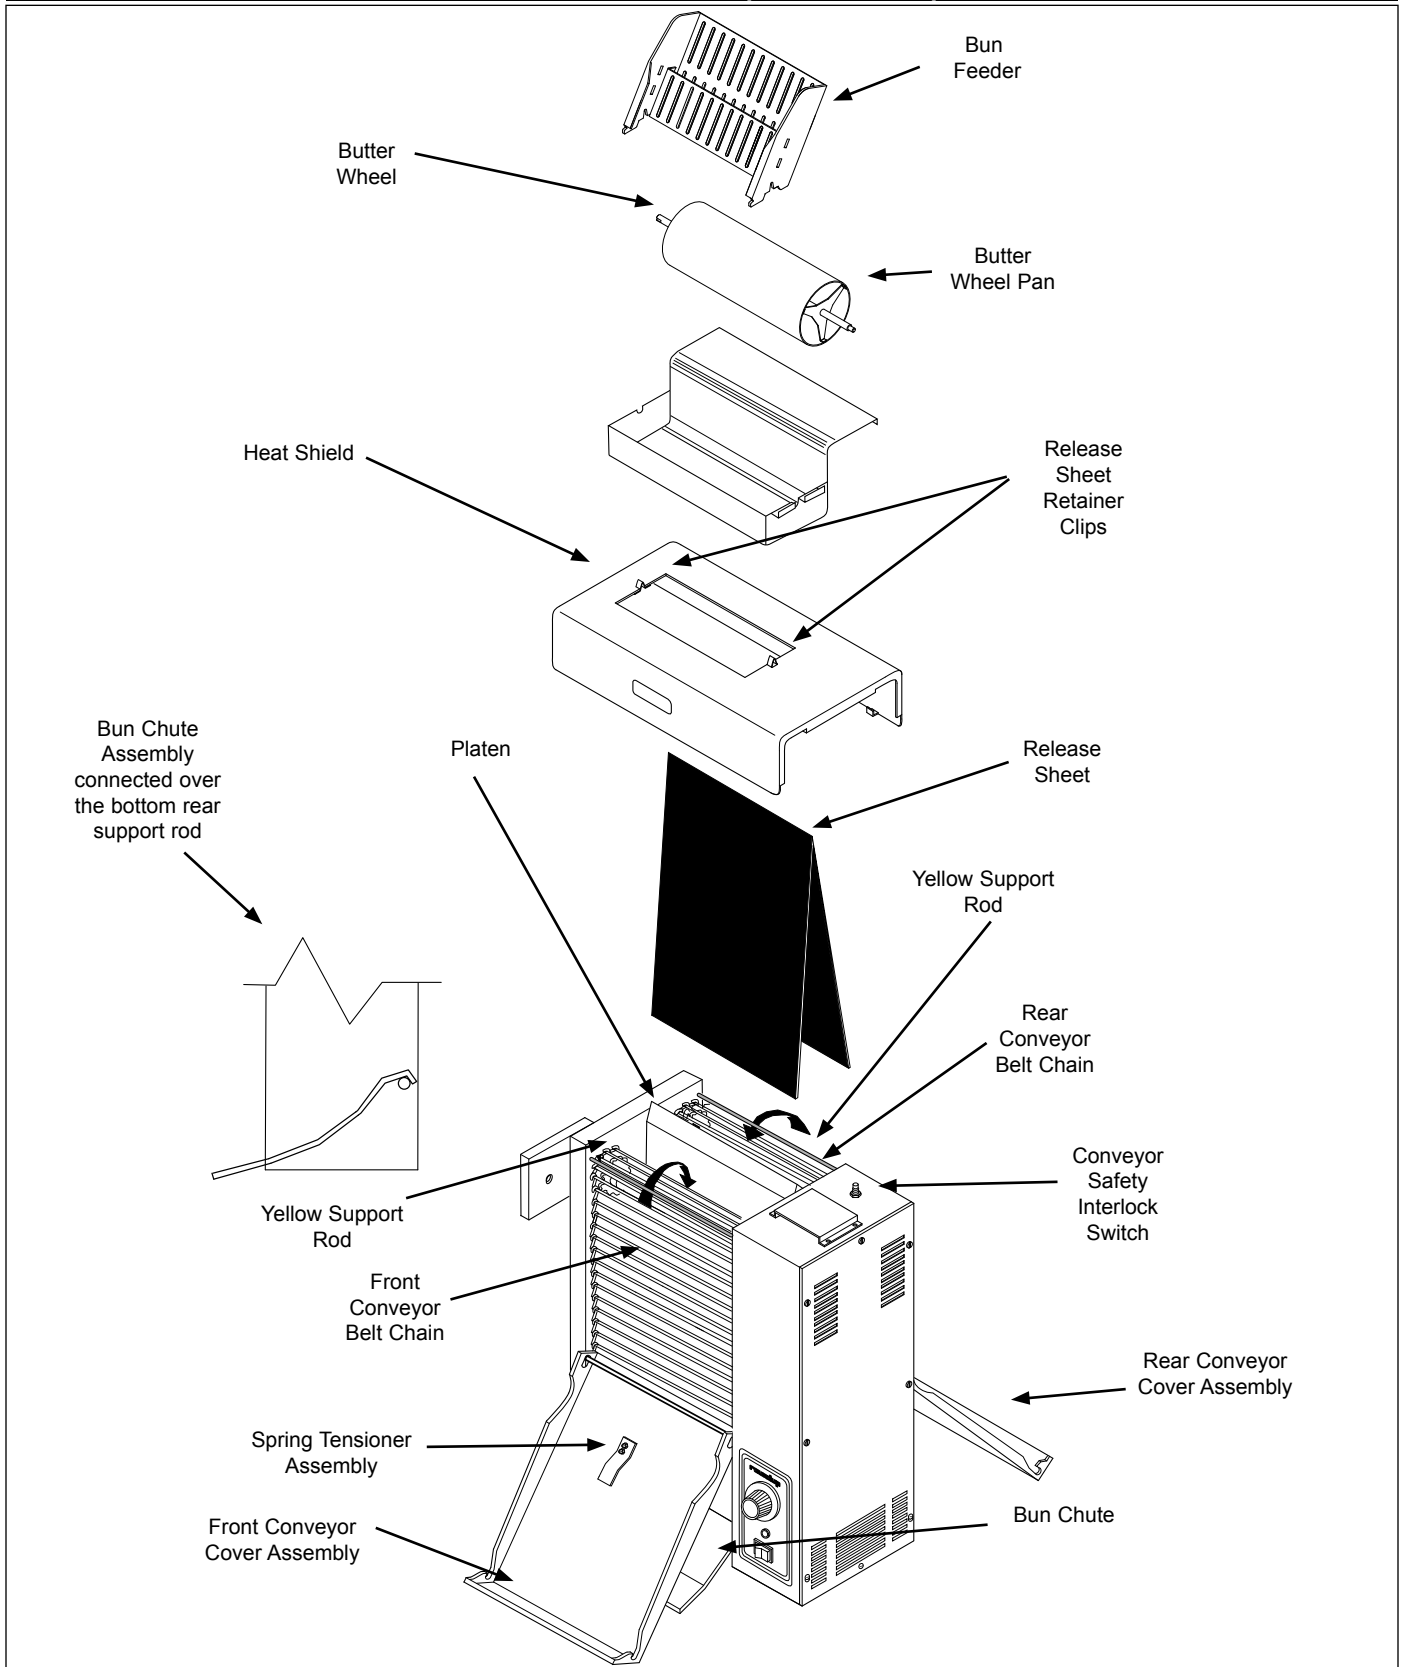

Figure 1. VCT-1000 Toaster With Mechanical Driven Butter Wheel
- Bun Chute (Figure 1)
- Butter Wheel and Pan (Figure 1)
- Two Release Sheets (Figure 1)
**NOTE: The factory has pre-installed a Release Sheet over the Platen (Figure 1). Verify that it is properly in place before proceeding.**
1. Remove Bun Chute from the box and install (Figure 1).
3. Install the Pan over the front edge of the Heat Shield and place the Butter Roller in pan and engage in to gear case (Figure 1).
**IMPORTANT: Make sure Heat Shield is activating the Conveyor Interlock Switch (Figure 1). The conveyors will not rotate unless the Heat Shield is in place and switch is activated.**
Verify that the Release Sheet is installed completely over the Platen (Figure 1) before proceeding. Failure to use Release Sheet may cause permanent damage to the Platen surface that is NOT covered by warranty.
A Conveyor Interlock Safety Switch is located on top of the unit under the Heat Shield (Figure 1). **The Conveyor Belt Chains will NOT rotate unless the Heat Shield is seated properly in place and activating the Conveyor Interlock Safety Switch.**
2. Put on heat-resistant gloves and remove the Butter Wheel, Pan, Heat Shield, and Bun Chute (Figure 1).
7. Open the front Conveyor Cover and firmly wipe the Conveyor Belt Chain (Figure 1) from left to right and top to bottom with a clean towel dampened with **Multipurpose Detergent Solution** immediately followed by a second clean towel dampened with sanitizer solution.
2. Remove the Bun Feeder, Butter Wheel, Pan, and Heat Shield (Figure 1) and set the Bun Thickness Compression Knobs to 6 & 6.